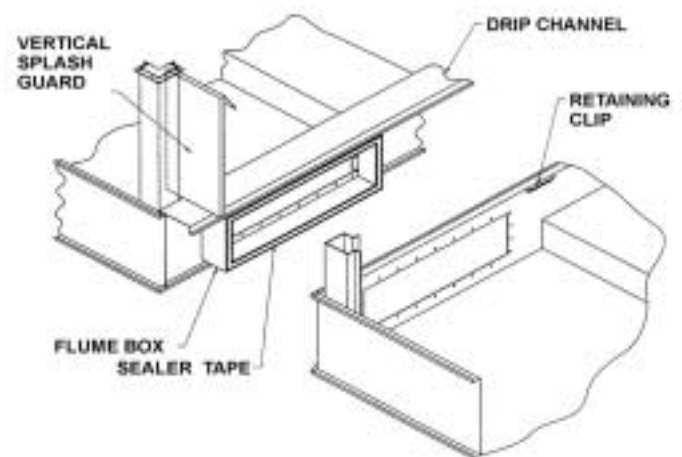

Figure 3 - Equalizer Flume Connection
2. Clean the flanges on the equalizer flume on the end to be field connected. Apply a layer of sealer tape on the flange centered between the hole centers and the outside edge. Remove paper backing strip from the sealer tape (see Figure 3).
9. Place the vertical splash guard in the bend of the vertical supports. On galvanized units, attach the vertical splash guard using 8 mm self-tapping screws. On stainless steel units, attach the vertical splash guard using 8 mm stainless steel nuts and bolts. (See Figure 3)